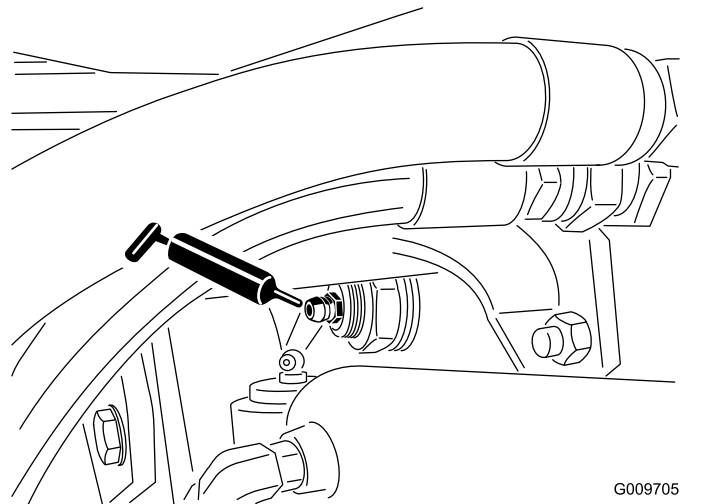

Figure 75
- Rear-axle-pivot bushings (2) as shown in Figure 75